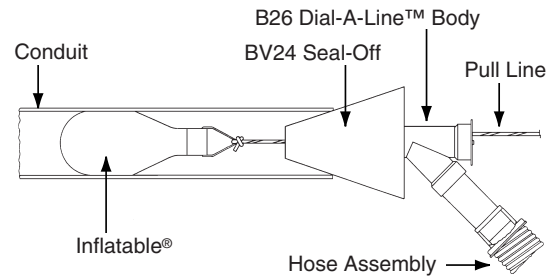

Figure 26. Blowing line in conduit with the Inflatables®
3. Connect the hose to the Dial-A-Line™ body and thread the pull line through the feed port. See Figures 26, 27 and 28.